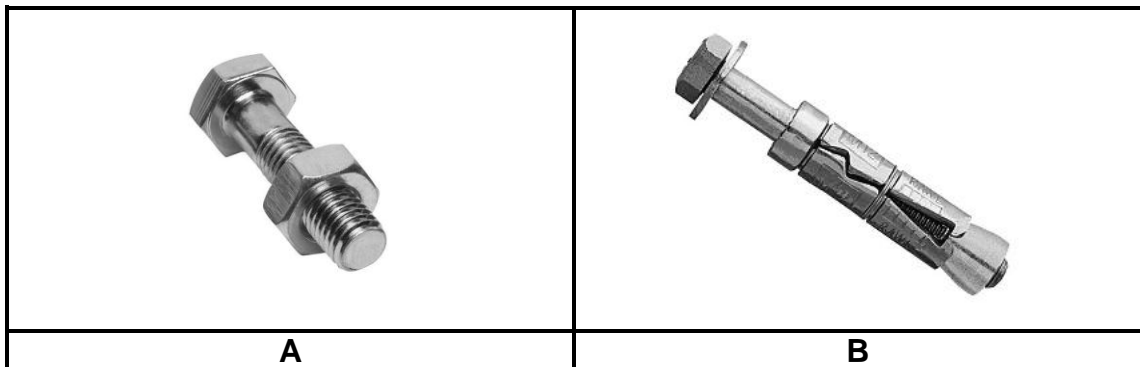

FIGURE 1.7
- 1.7 FIGURE 1.7 below shows joining fixtures that are used on building sites and in workshops.